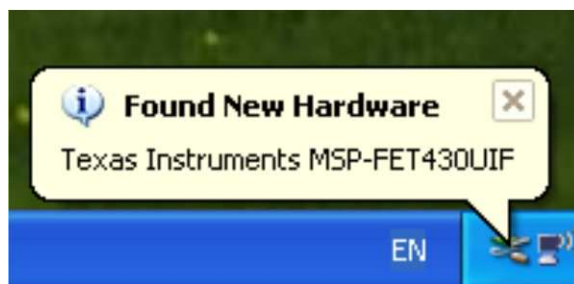

Figure B-9. eZ430-RF Windows Driver Installation
3. Windows should now recognize the new hardware as an "MSP430 XXX x.xx.xx" (see Figure B-9). The device name may be different from the one shown here.